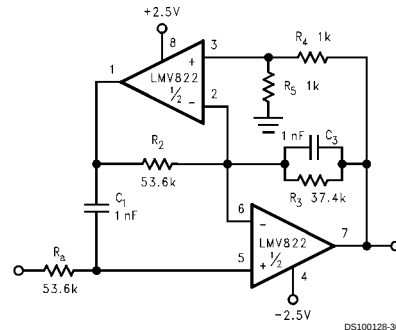
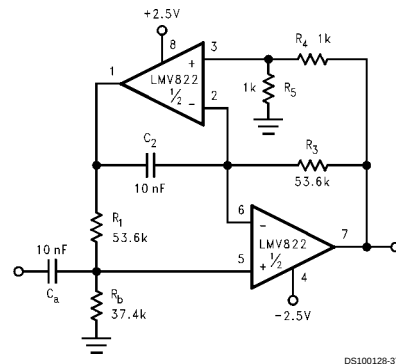
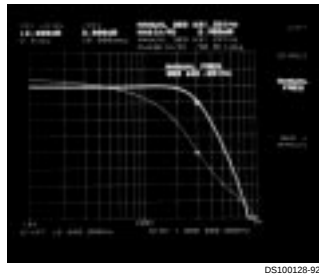

FIGURE 10. Dual Amplifier, 3 kHz Low-Pass Active Filter with a Butterworth Response and a Pass Band Gain of Times Two
FIGURE 11. Dual Amplifier, 300 Hz High-Pass Active Filter with a Butterworth Response and a Pass Band Gain of Times Two
FIGURE 12. 300 kHz, Low-Pass Filter, Butterworth Response as Measured by the HP3577A Network Analyzer
The LMV822/24 bring economy and performance to DAAFs. The low-pass and the high-pass filters of Figure 10 and Figure 11 (respectively), offer one key feature: excellent sensitivity performance. Good sensitivity is when deviations in component values cause relatively small deviations in a filter's parameter such as cutoff frequency (f_c). Single amplifier active filters like the Sallen-Key provide relatively poor sensitivity performance that sometimes cause problems for high production runs; their parameters are much more likely to deviate out of specification than a DAAF would. The DAAFs of Figure 10 and Figure 11 are well suited for high volume production.
Single Amplifier versions require a large open-loop to closed-loop gain ratio - approximately 50 to 1, at the F_c of the filter response. Figure 12 shows an impressive photograph of a network analyzer measurement (hp3577A). The measurement was taken from a 300kHz version of Figure 10. At 300 kHz, open-loop to closed-loop gain ratio (F_c) about 5 to 1 (footnote). This is 10 times lower than the 50 to 1 "rule of thumb" for Single Amplifier Active Filters.
In addition to performance, DAAFs are relatively easy to design and implement. The design equations for the low-pass and high-pass DAAFs are shown below. The first two equations calculate the F_c and the circuit Quality Factor (Q) for the LPF (Figure 10). The second two equations calculate the F_c and Q for the HPF (Figure 11).
To simplify the design process, certain components are set equal to each other. Refer to Figure 10 and Figure 11. These equal component values help to simplify the design equations as follows:
To illustrate the design process/implementation, a 3 kHz, Butterworth response, low-pass filter DAAF (Figure 10) is designed as follows: